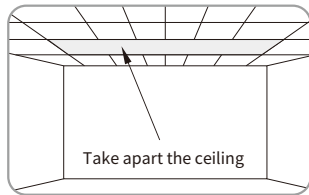
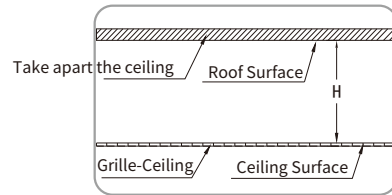

Figure 1
Figure 2
1. Choose a position according to the required space, and then take apart the ceiling (Figure 1). Please measure the distance H between roof and ceiling surface correctly (Figure 2)